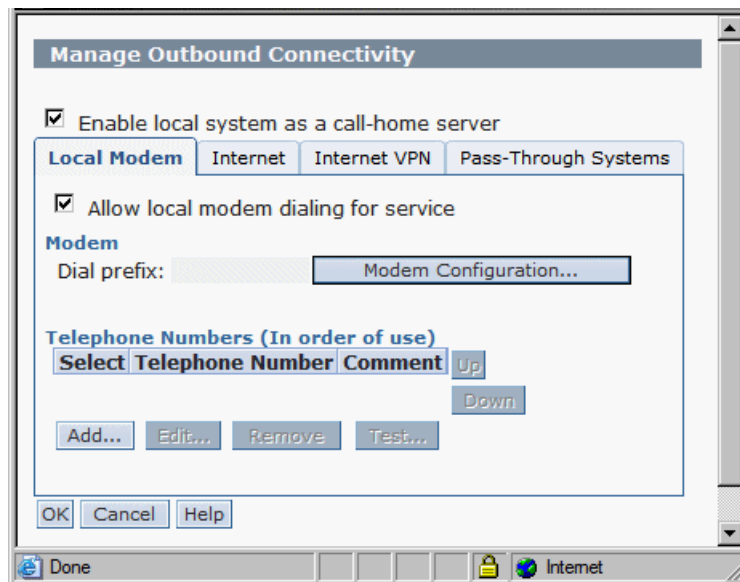

Figure 12-25 Manage Outbound Connectivity, Local Modem
1. On the Local Modem tab, **Allow local modem dialing for service**, and then select **Modem Configuration** (Figure 12-25).